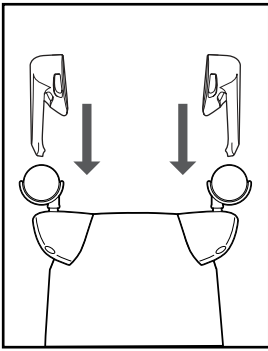

FIGURE 7
6. With tank inlet facing you, attach hose holder **A** to caster assembly **A**, and hose holder **B** to caster assembly **B**. **(FIGURE 7)**